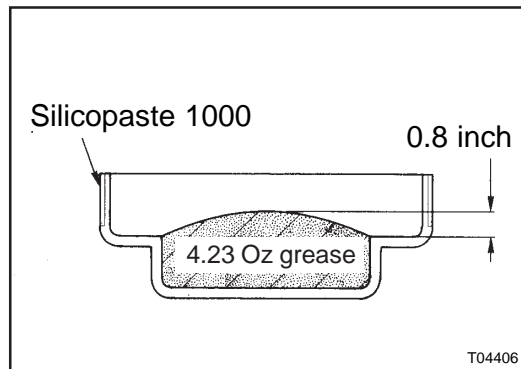

Figure 3: Grease distribution in hub cap
12. Put 120 g (4.23 Oz) of grease in center of hub cap as indicated in figure 3. Do not touch screw threads.